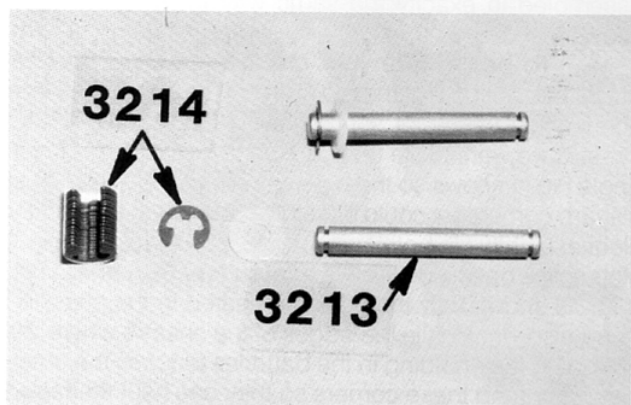

Fig. 2
□ **Fig. 2**—Empty Bag #1 into a paper plate. Take one of the #3213 front axles and push in one of the #3214 E-clips into the axle groove. (The E-clips are taped together and can be seen a little better in the photo.) Put another clip on the other axle. Now slip one of the small white nylon washers all the way onto the axles and up against the E-clip.